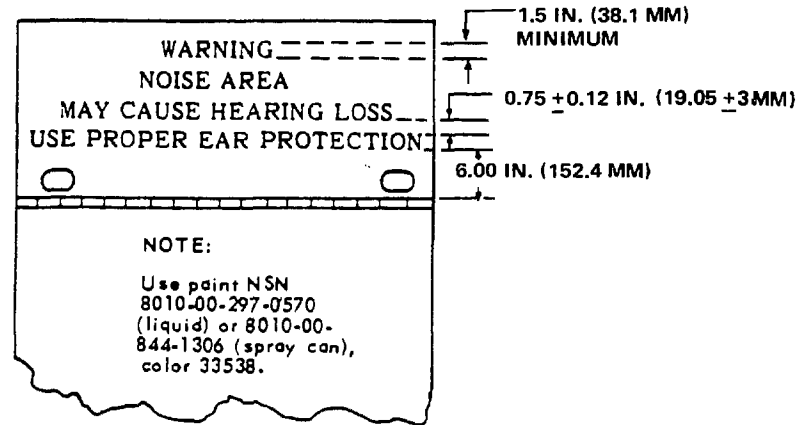

Figure 4-3. Noise Level Warning Sign
(2) Ensure that a noise level warning sign is stenciled on the top half of both rear (generator end of set) side doors (6, figure 4-10) as shown in figure 4-3.